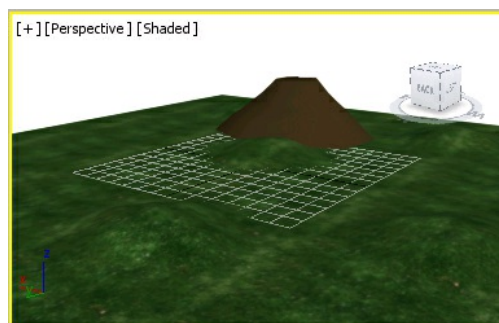

Figure 11-97 *The hill01 after scaling
14. Unhide *ground*. Next, scale and align *hill01* with *ground*, and delete all the lines, refer to Figure 11-97.